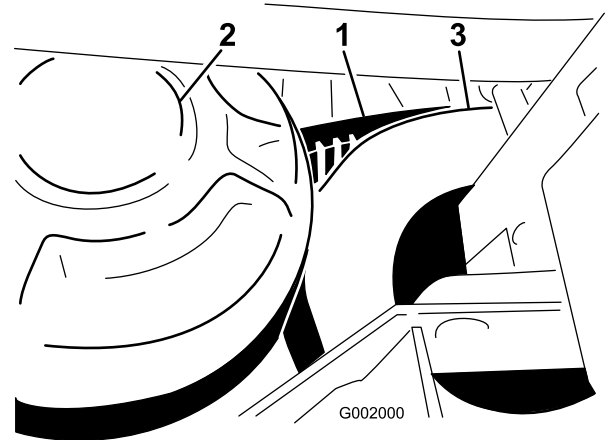

Figure 64
1. Rotate and route the belt over the secondary clutch (Figure 64).